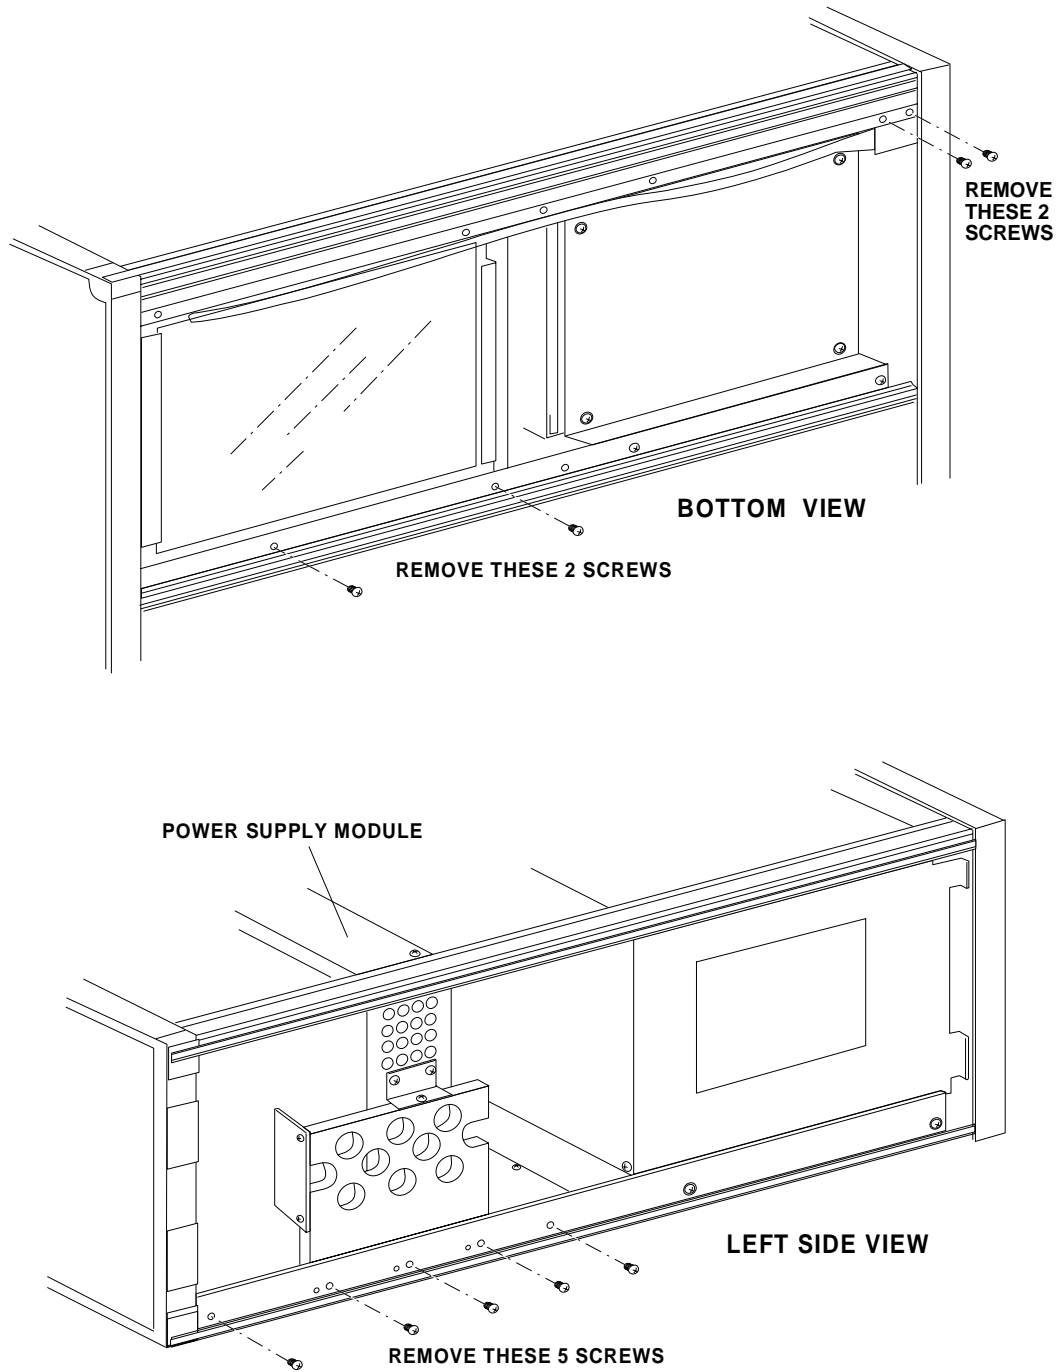

Figure 5-3. Removing the Power Supply Assembly
- Step 2** Remove the two screws that fasten the POWER ON/OFF switch mounting bracket to the chassis (Figure 5-3, top).
- Step 8** Remove the five screws that fasten the power supply assembly to the chassis side rail (Figure 5-3, bottom).